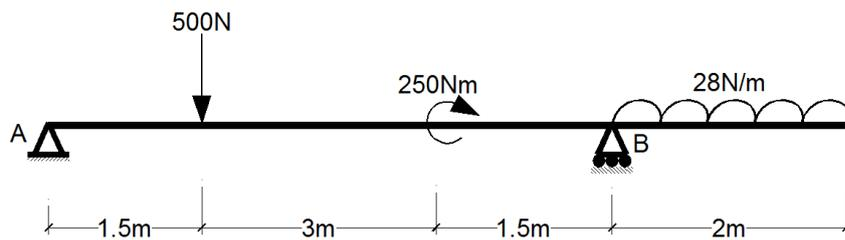

Fig. 7
- (b) Determine reaction at supports for the Beam as shown in Fig. 7 **04**